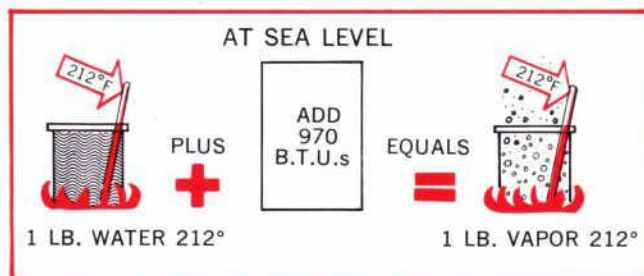

Figure 7—The Principles of Latent Heat of Evaporation
Whenever heat is added to a container holding one (1) pound of water which is at 212°F. (at sea level) the water will absorb 970 BTU's of heat without any change in the thermometer reading. This is known as **LATENT HEAT OF EVAPORATION**. See figure 7.